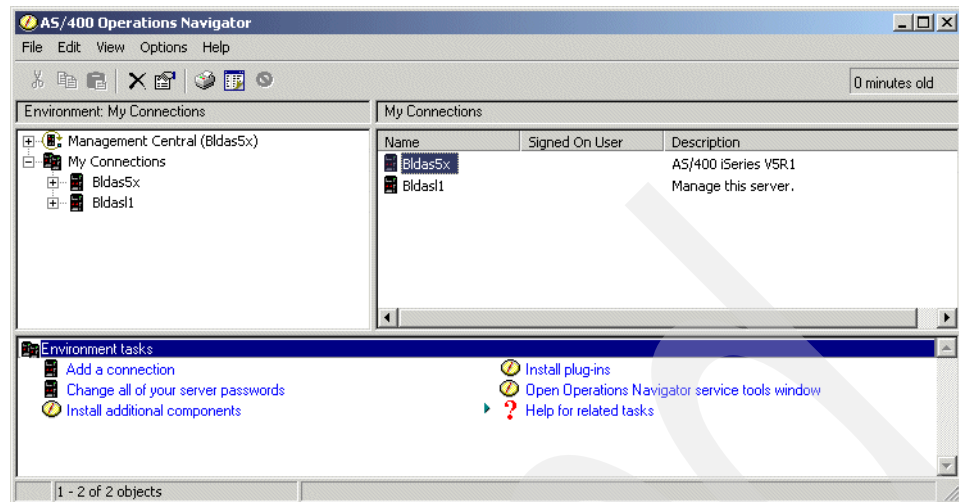

Figure 114. Selecting the system where the printer is defined
2. The Operations Navigator window shown in Figure 114 may differ depending on your environment. Select the system where the printer is defined or expand the connection branch.